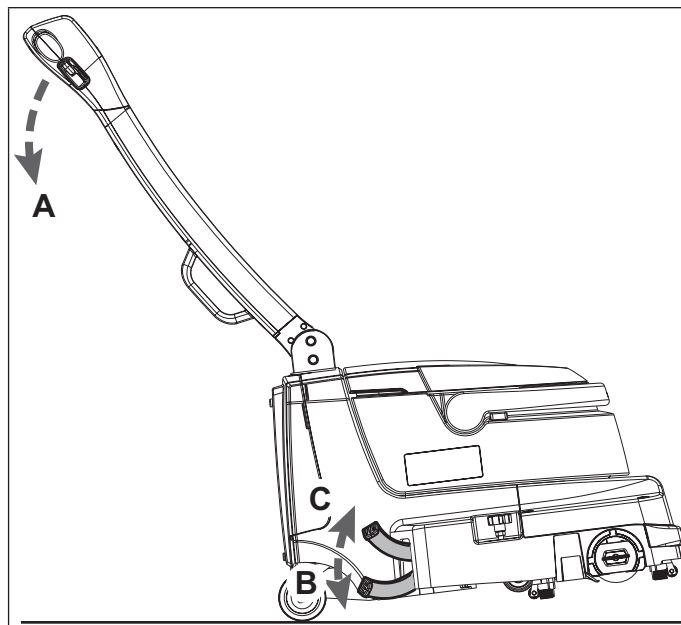

Figure 1
*In order to facilitate the use of the park pedal (10), slightly lift the front section of the machine by gaining leverage with your hands on the handlebar (A, Fig. 1).*
1. Putting your hands on the handlebar (A), slightly lift the front section of the machine, then press the pedal (B, Fig. 1). In this condition, the front wheels (11) are resting on the floor and the brush/squeegee unit is lifted.